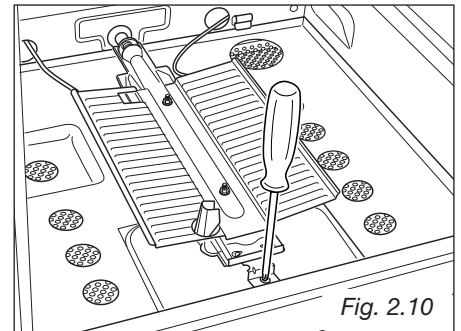

Fig. 2.10
- Remove the burner securing screw (fig. 2.10).